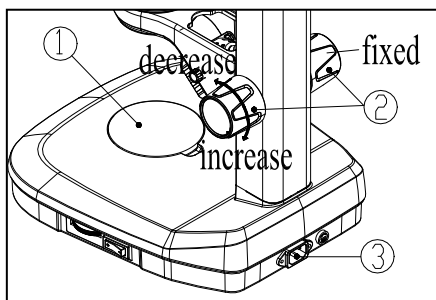

Fig 1
Holding left&right focusing knob ② with both hands(Fig 1),then fixed left focusing knob. Rotating clockwise the right focusing knob, Strain can increase otherwise decrease.
1. Plug in power line in socket ③ (Fig 1), turn on the power.